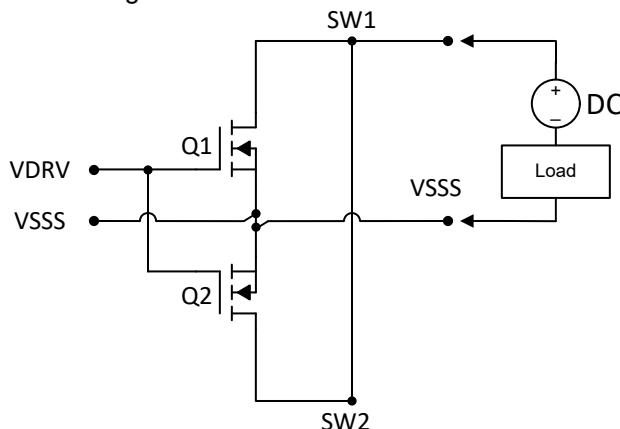

Figure 4-2. DC Load
- b. Figure 4-2 shows an application using two parallel common source MOSFETs. This action allows the users to achieve lower $R_{DS(on)}$. Because one MOSFET cannot block reverse current when off, the recommended load for this configuration is a DC load.